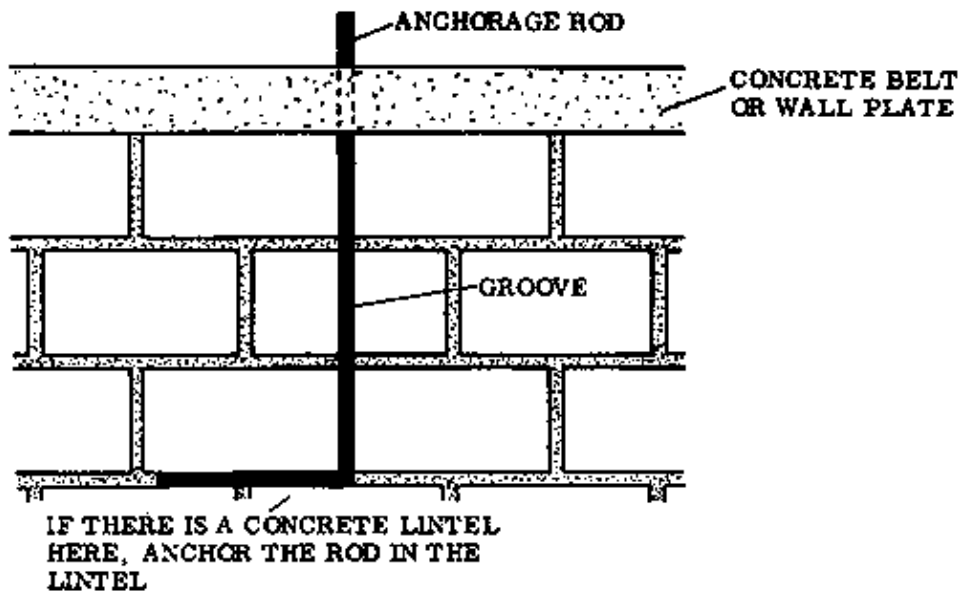

Fig. 1
– In the first method, the rod is inserted in the bed joint as the third course below the top of the wall is laid. The rod is bent at a right angle so it can fit into the cross joint (Fig. 1); and it is positioned just inside the face of the wall.
When the next course is laid, the block above is chiselled out to make a shallow groove (approximately 1 cm deep) for the rod (Fig. 1).
The rod fits into the next cross joint and is bent gradually inwards toward the top centre of the wall, coming out where it can pass later through the wallplate or concrete belt (Figs. 1 & 2).